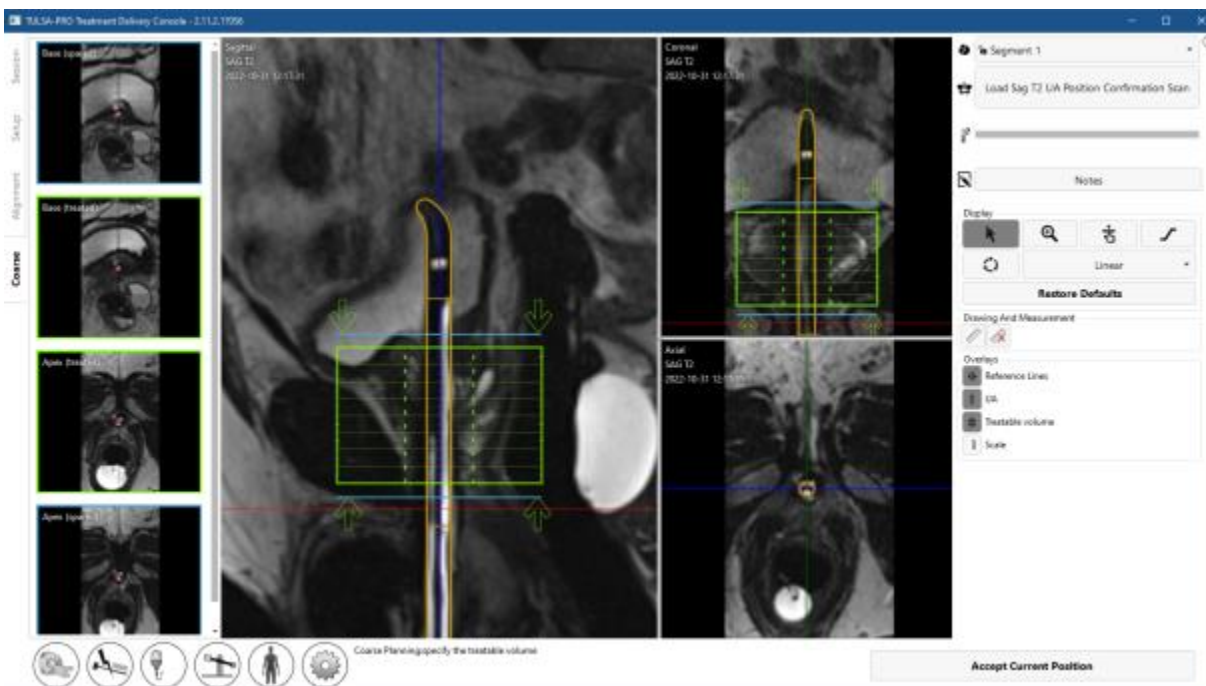

Figure 34: Coarse Planning workspace in TDC software
The treatment volume is displayed as a green rectangle on the sagittal and coronal views. Regions beyond a light blue line displayed 4 mm from the bottom and top edges of the green rectangle on the sagittal and coronal views are anatomical regions expected to be spared fully from thermal coagulation (*Figure 34*).
**NOTE:** When determining where to position the UA, identify the external urinary sphincter. If the external urinary sphincter cannot be identified, it should be considered immediately adjacent to the prostate apex. Place the light blue line below the first element on the external urinary sphincter (*Figure 34*).